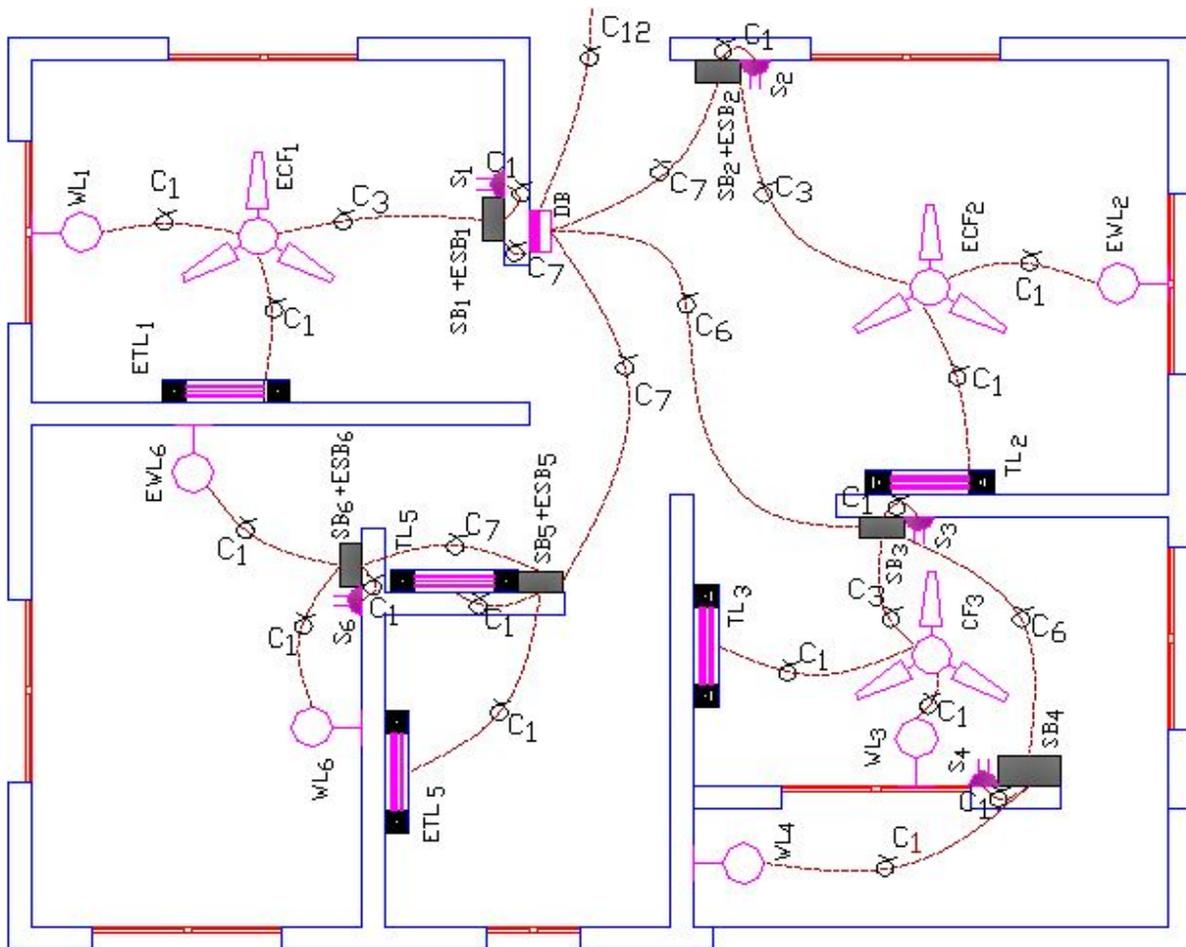

Fig. 8.1: Wiring the 25'00''x20'00'' flat
- Write spl to get spline command. Draw the lines as shown in Figure.8.1.